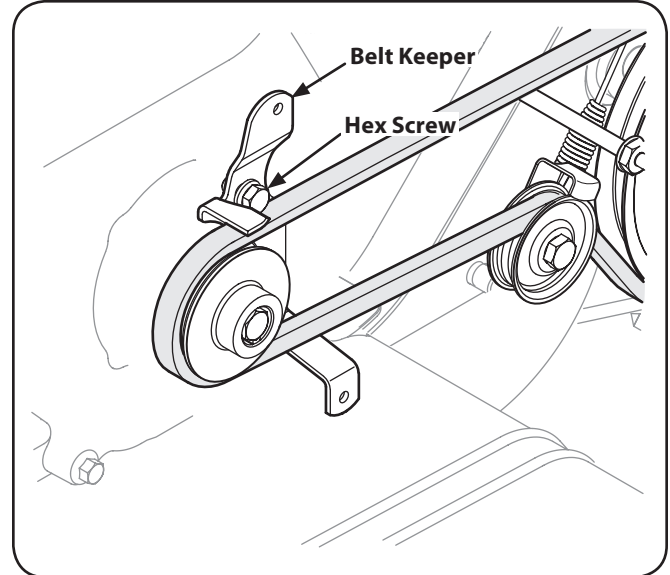

Figure 7-3
4. Using a 1/2" wrench, remove the hex screw securing the belt keeper to the engine. See Figure 7-3.